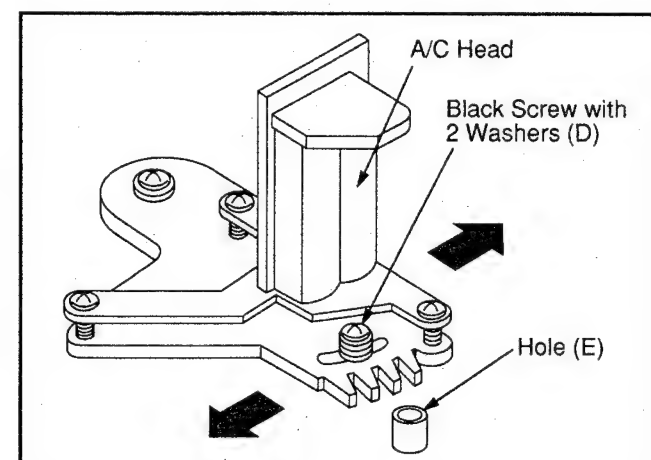

Fig. M16
3. If adjustment is required, loosen the Black Screw with 2 Washers (D) and tighten the Screw lightly. Set the H-Position ADJ. Screwdriver into the Hole (E) shown in Fig. M16. Then slowly turn the fixture either clockwise or counterclockwise so that the envelope is at maximum.
7. If the number of pushes is not the same, then loosen the Black Screw with 2 Washers (D) and set the H-Position ADJ. Screwdriver into the Hole (E) shown in Fig. M16. Then find the center point. Then repeat the above procedure to determine the center point.
8. Tighten the Black Screw with 2 Washers (D).